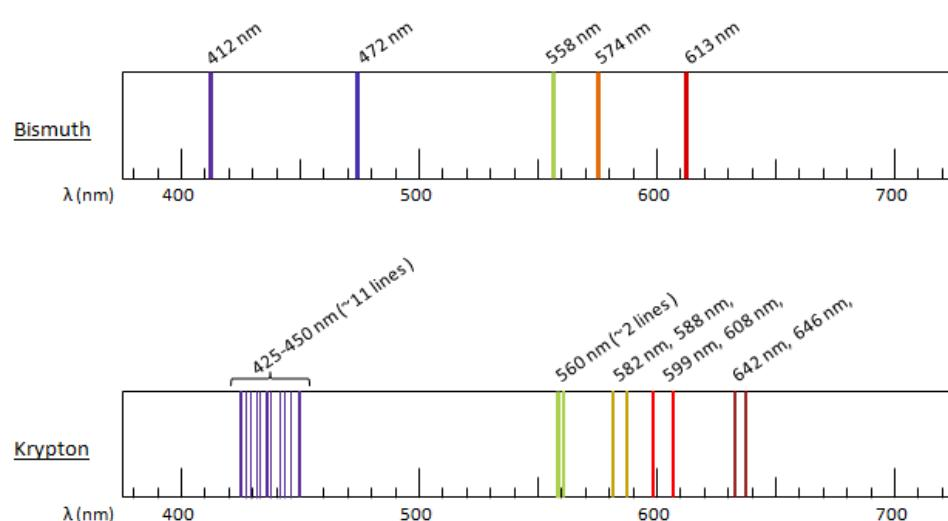
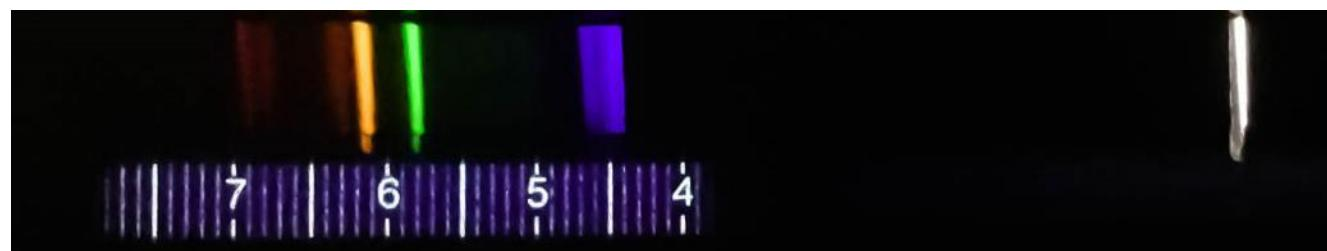

Figure 2: Emission Spectra for Bismuth and Krypton
Figure 3: Emission Spectrum for Krypton on a Low-Resolution Spectroscope
* The drawings in figure 2 are what the line spectrum will look like on a high resolution spectroscope. When using the spectrosopes in this lab, the spectrum for Krypton will look something like this (figure 3).